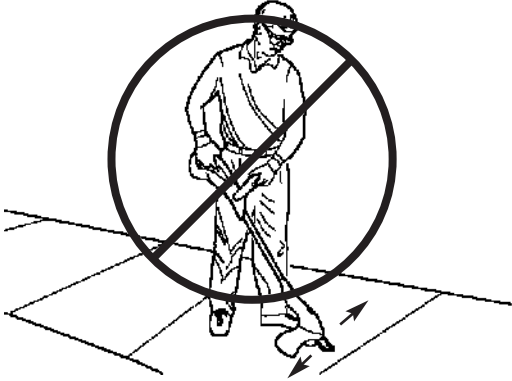

Fig. 15
- BALAYAGE - NE PAS UTILISER LE COUPE-HERBE POUR BALAYER.** (Fig. 15)